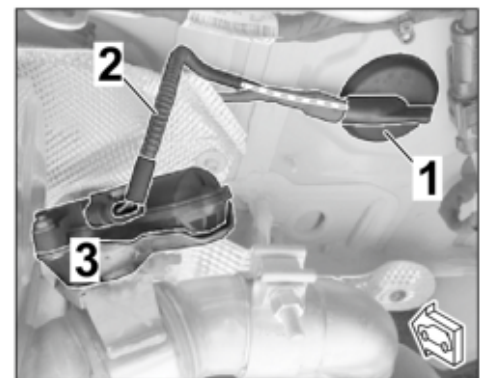

Figure 28
- 3.3.4 **ONLY** if a grommet with several lines is installed on the underside (including an exhaust flap branch (left/right of the standard rear silencer ⇒ Figure 28):